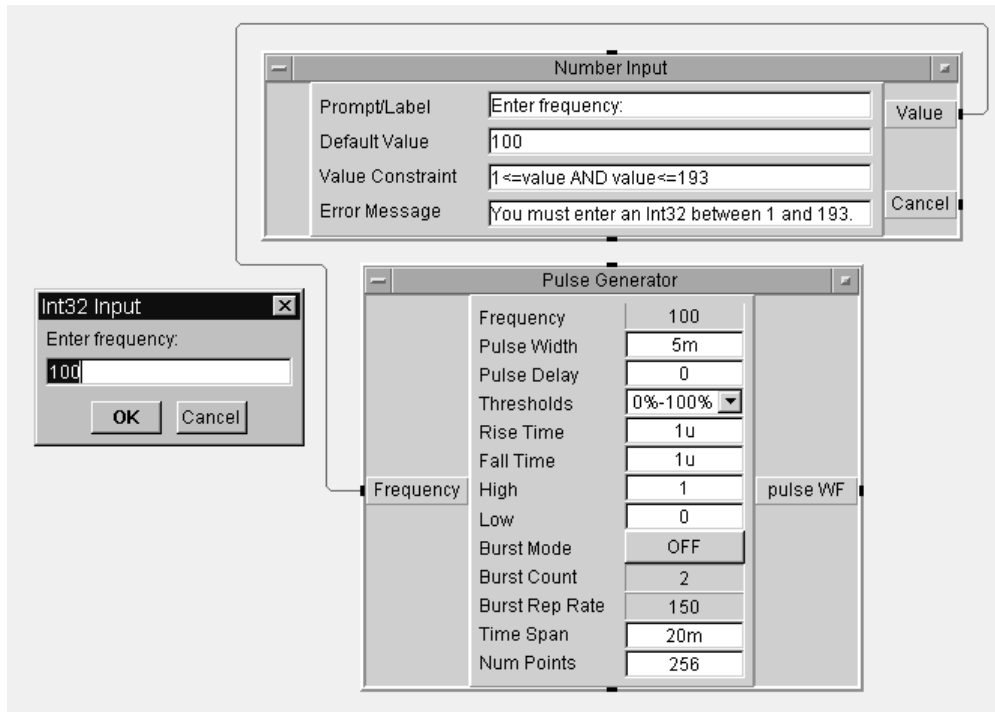

Figure 2.3. The Initial PulseProgram
13. Run this portion of your program; a pop-up box will appear. See Figure 2-3.